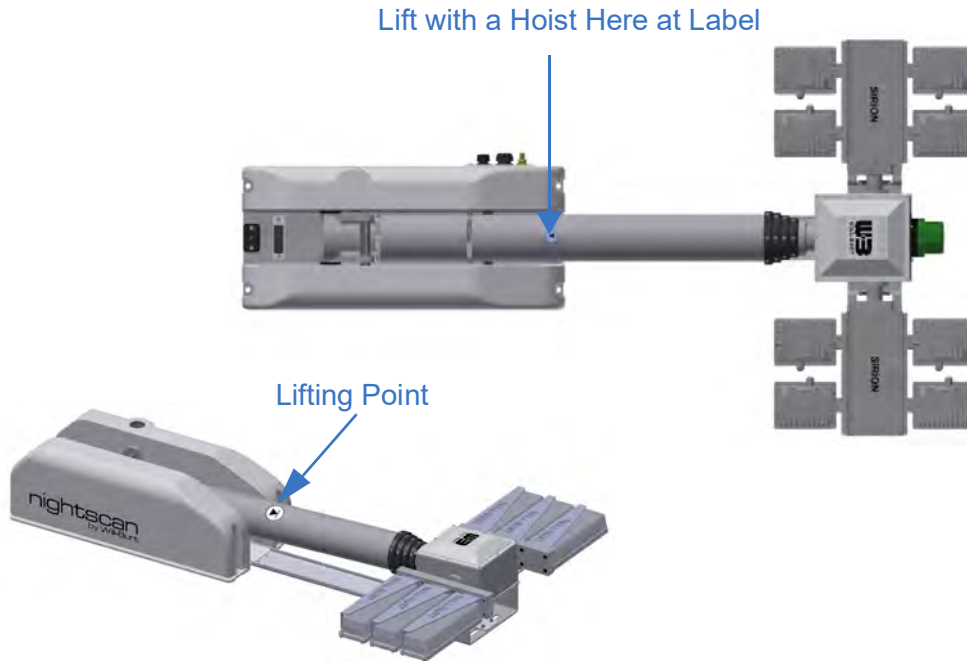

Figure 5-2 Center of Gravity Hoisting Position
- Using a hoist, lift the unit from the shipping container by the mast tube at the labeled center of gravity symbol (Figure 5-2) position. Do not lift using the RCP or lights/camera. Lifting from locations other than those indicated could result in equipment damage. Use two point contact for slings to keep the load stable while moving.